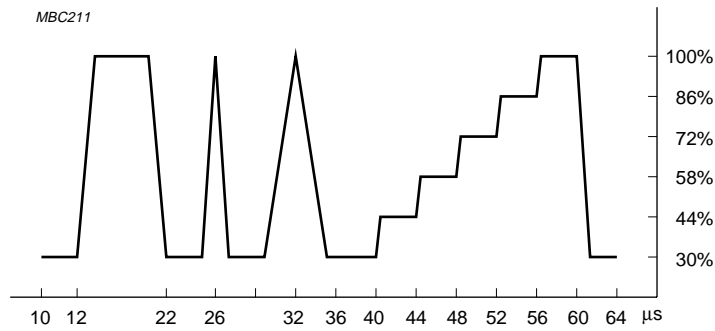

Fig.6 Test signal waveform.
- This figure is valid for the complete video signal amplitude (peak white-to-black). See Fig.6.